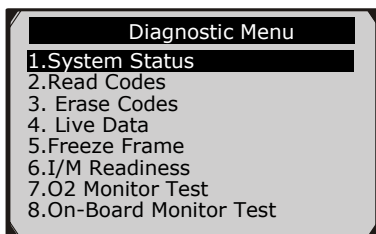

Figure 6.3
7) View a summary of system status (MIL status, DTC counts, Monitor status) on screen. (Figure 6.1 ) Press **OK** button for **Diagnostic Menu** (Figure 6.3) to come up.
- 1) Use **UP/DOWN** scroll button to select **Read Codes** from **Diagnostic Menu** and press **OK** button. (Figure 6.3 )
- 1) Use the **UP/DOWN** scroll buttons to select **Erase Codes** from **Diagnostics Menu** and press the **OK** button. (Figure 6.3)
- 1) To view live data, use the **UP/DOWN** scroll button to select **Live Data** from **Diagnostic Menu** and press the **OK** button. (Figure 6.3)